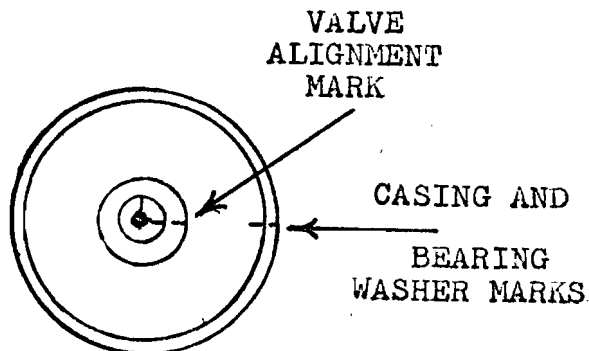

Figure 25 C
- b) Locate the alignment mark at the end of the rotar shaft (Figure 25 C).